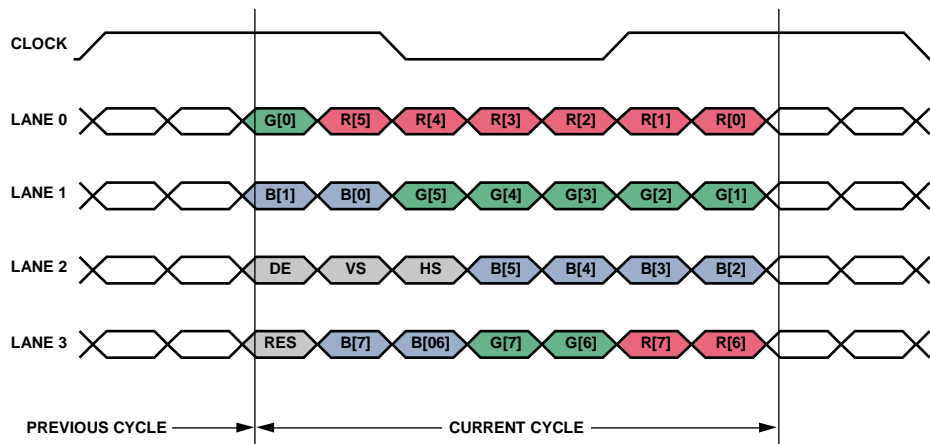

Figure 63. Alternative Bitmapping (8-Bit Color Depth Only)
Figure 63 shows alternative bitmapping with the 8-bit color depth that the ADV7613 can output. In this mode, the data is packed into four data lanes carrying eight bits for each color component, along with the video timing controls—that is, active data enable (DE), vertical synchronization (VS), and horizontal synchronization (HS). The bit labelled RES is reserved for future use. Similar to OpenLDI bitmapping, the clock channel does not have a 50% duty cycle; instead, its falling edge is aligned to the start of the third component in the cycle, and its rising edge is aligned to the start of the sixth component in the cycle.